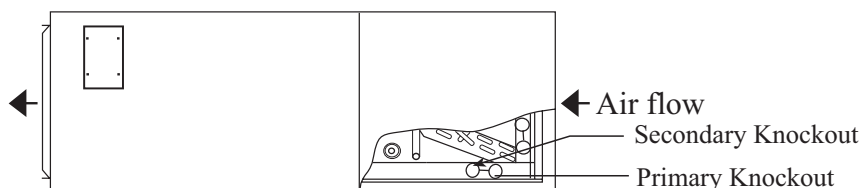

Fig.2
- 7) The Airhandler can now be placed in its left horizontal position as shown in Fig.2. The Airhandler must be leveled and then pitched 1/4" toward drain side. **Important:** Drain pan must be tested for proper drainage by pouring water into the pan. Traps must be installed on the primary drain and on the secondary drain if used.